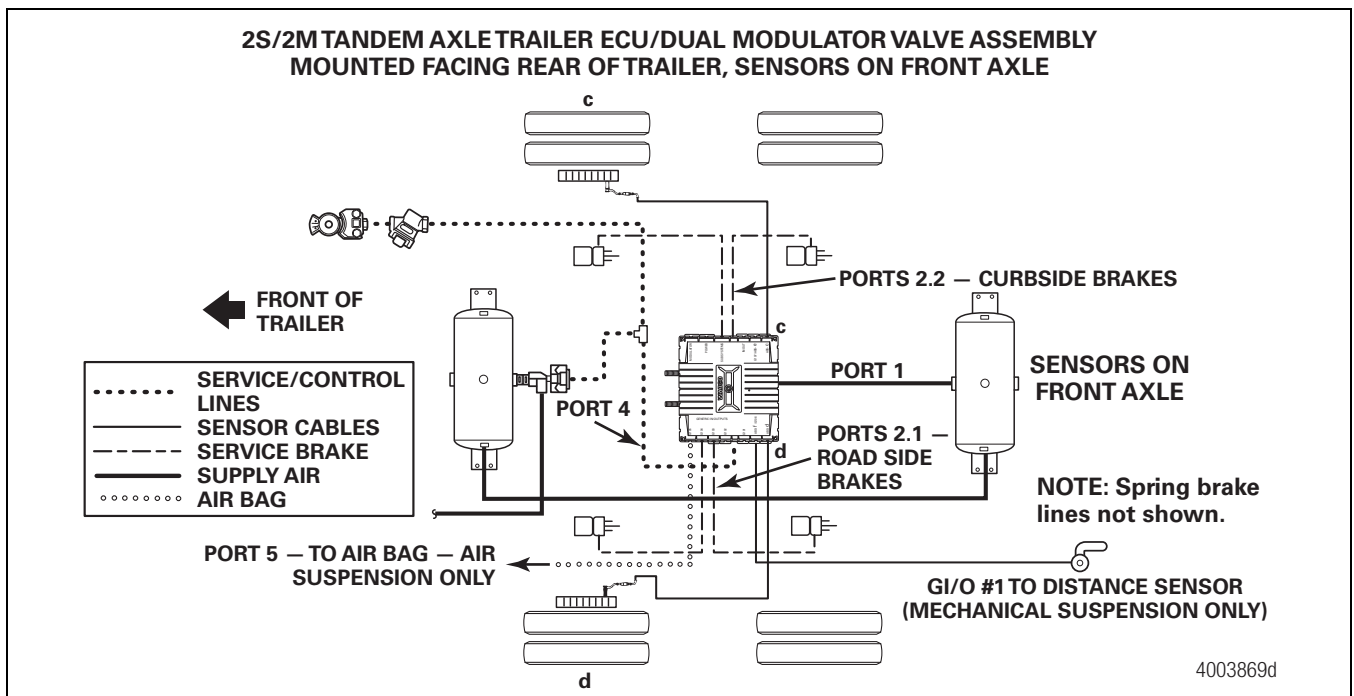
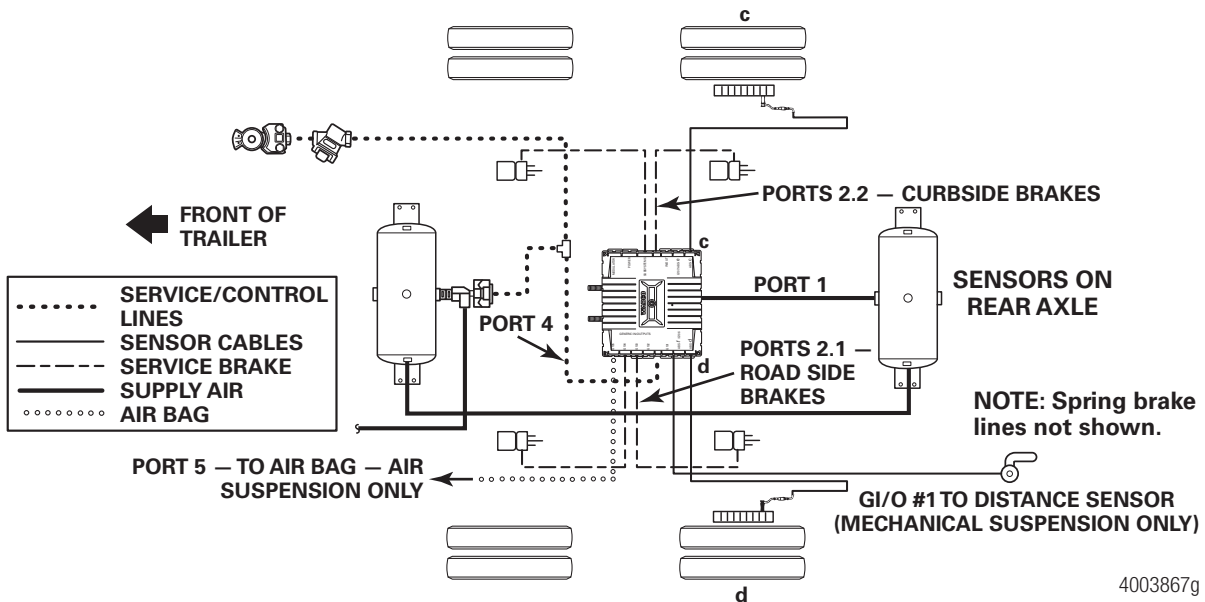

Figure 17
Figure 19
- 2S/2M (Figure 17 and Figure 19)